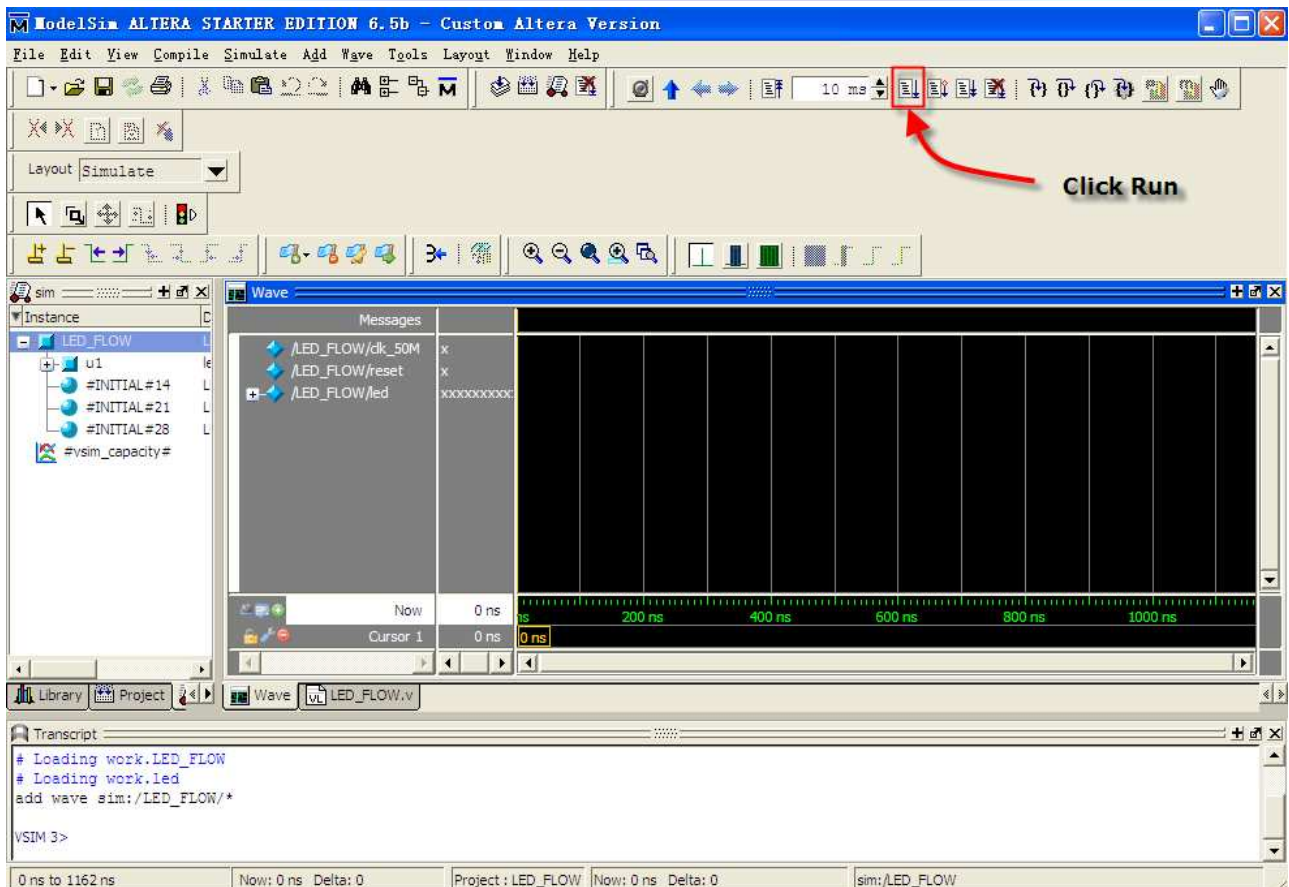

Figure 3.6 Run the Simulation
- Click on the **Run** button, which is pointed by a red arrow, shown in Figure 3.6.